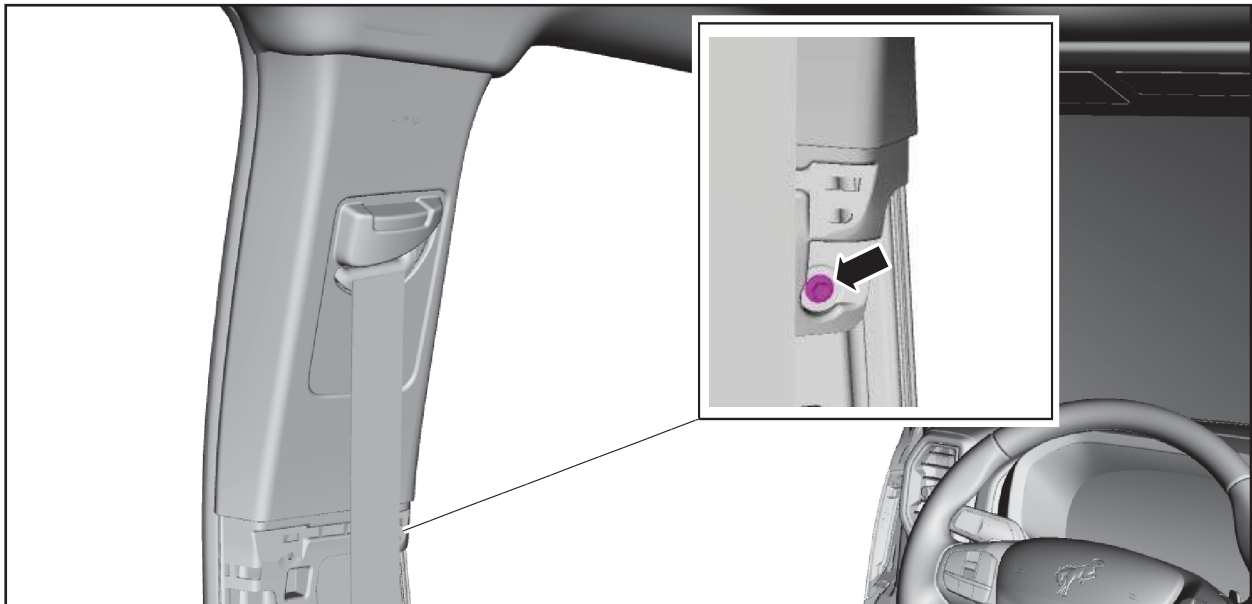

FIGURE 6
6. Remove the upper LH B-pillar trim panel bolt. See Figure 6.